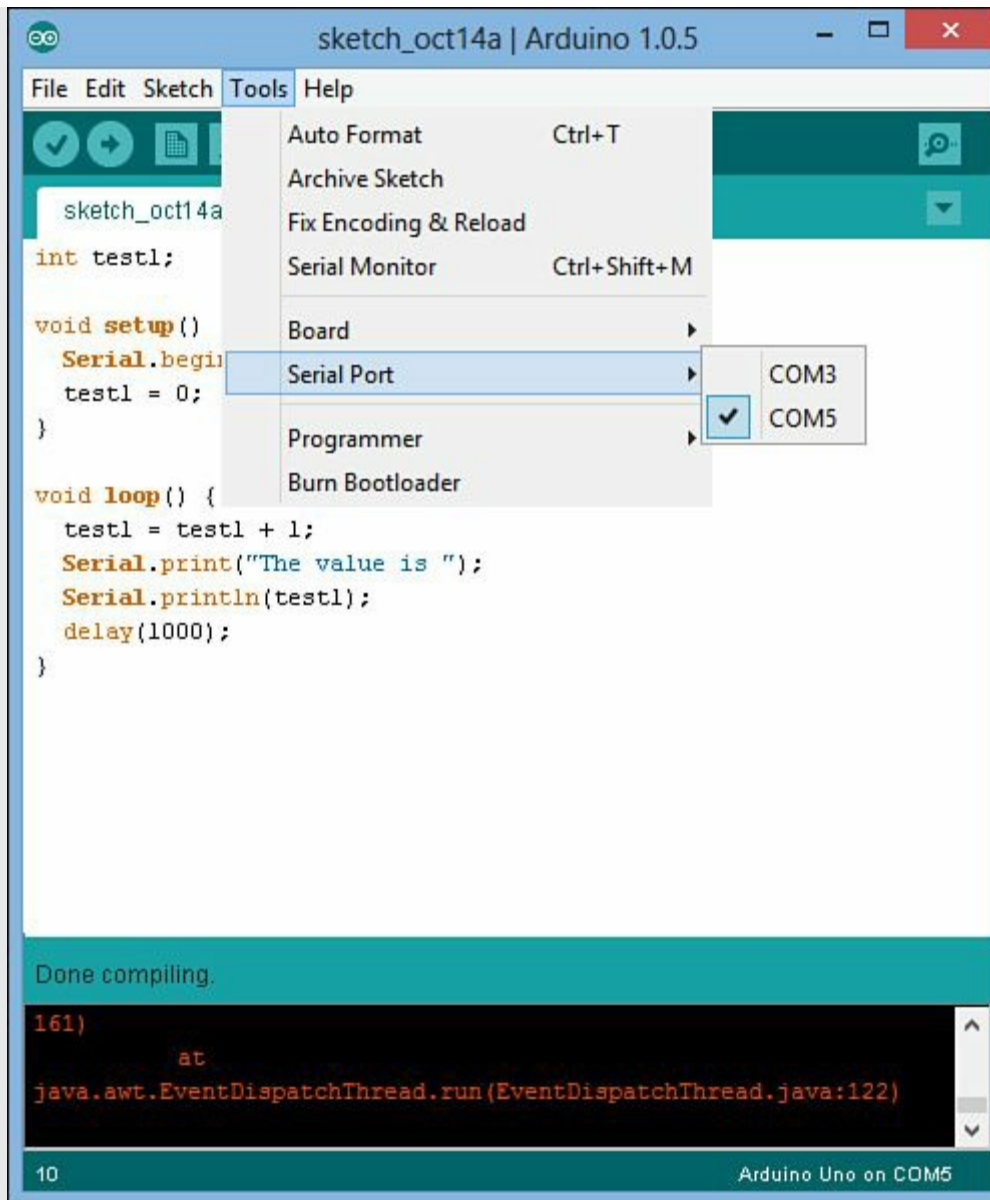

FIGURE 3.5 The serial port options for a Windows workstation.
3. The second thing to check is the serial port. Choose Tools > Serial Port from the menu bar. You should see a list of the available serial ports installed on your workstation, as shown in Figure 3.5.